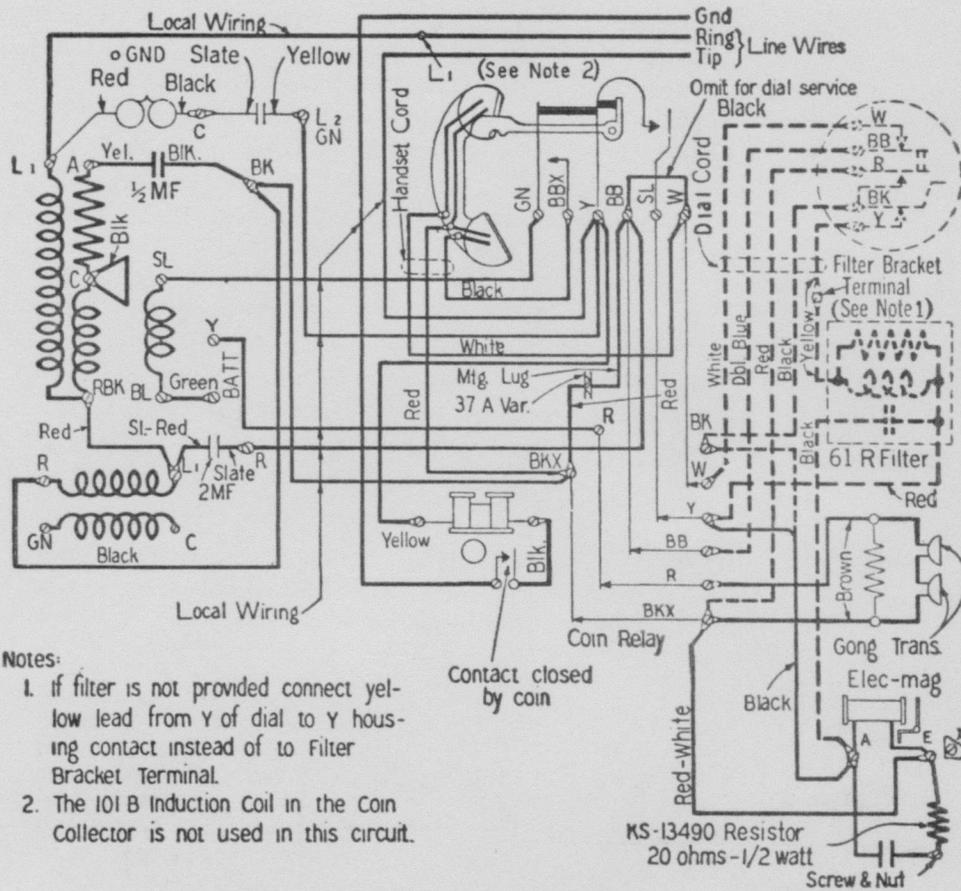

Fig. 3—191-Type Coin Collector Shown with 634YD Subscriber Set
- 1.02 In some cases due to limiting loop conditions, it is necessary to provide local battery talking at stations previously working on a common battery basis. This change should only be made when called for on the order. In such instances the 191-type coin collector and associated subscriber set will have to be modified and the connections made as shown on Figs. 3 and 4 instead of as shown on Figs. 1 and 2.
3.01 At local battery talking, common battery signalling stations, the induction coil in the 191-type coin collector is not used in the circuit and the coin collector will require wiring changes. The subscriber set associated with the coin collector will also require a minor wiring change. Extra local conductors, if not present, will have to be added in the telephone booth between the coin collector and the subscriber set (5 or 6 required per Fig. 3, and 6 or 7 required per Fig. 4).
3.02 Fig. 3 shows the 634YD sets with 104A induction coil. The 634YD subscriber set may come equipped with either the 104A induction coil or the 113D induction coil. These coils are not interchangeable in the field. The corresponding terminals of the two coils are as follows: